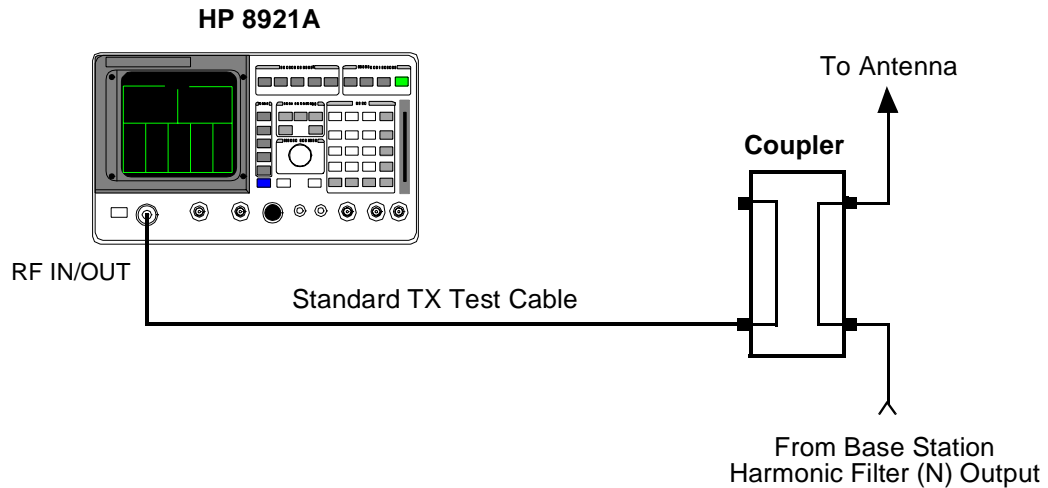

Figure 9
4. See *figure 9*. Connect the TX harmonic filter output to the RF coupler input. Connect the Test Set RF IN/OUT, using a standard test cable, to the coupled port of the RF coupler in the TX antenna line.